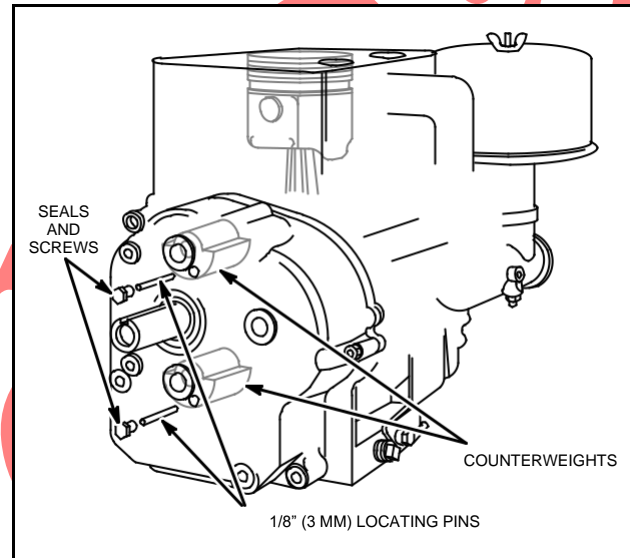

Fig. 187 - TIMING COUNTERBALANCE GEARS
1. Remove two small screws from cover and insert 1/8" (3 mm) diameter locating pins or breather screws and extended dipstick tube screw through screw hole and into timing hole provided in counterweights, Fig. 187.